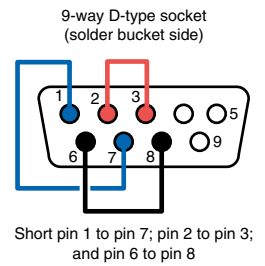

Figure B1.6.3 Loop back test wiring
Touching one of these keys performs a loopback test on the relevant Serial port. In order for the test to be successful, a 9-way D-type socket, wired as in figure B1.6.3, must be fitted to the relevant serial port at the rear of the recorder. If wired as shown, the socket is suitable for testing with both EIA232 and EIA485 communications standards. The test will result in the legend 'S1(2) Passed' or 'S1(2) Failed' replacing 'Serial 1' or 'Serial 2' on the appropriate key. If the Serial Comms option is not fitted, pressing either key returns a 'Failed' message.